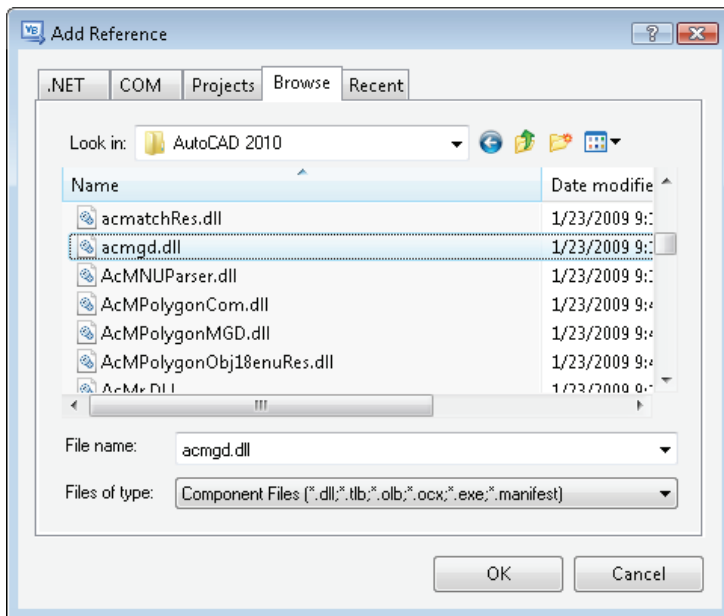

Figure 2: Add Reference dialog box
2. In the Add Reference dialog box (see Figure 2), Browse tab, browse to C:\Program Files\AutoCAD 2010 (or where AutoCAD is installed). Press and hold Ctrl, and select the files acmgd.dll and acdbmgd.dll. Click OK.